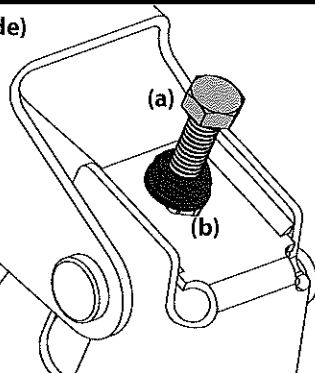

Figure 39
3. Locate the adjustment bolts (a) on the left and right side of the deck. See Figure 39.
4. Loosen, but do not remove, the jam nuts (b) on the adjustment bolt. Adjust either the right or left adjustment bolt up or down as necessary until the side-to-side heights are equal. See Figure 39.